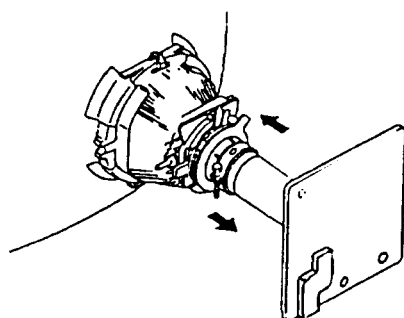

Fig.3-1
3. Move the deflection yoke backward, and adjust with the purity control so that red is in the center and blue and green are at the sides evenly. (Fig.3-1 - 3-3)
4. Move the deflection yoke forward, and adjust so that the entire screen becomes red. (Fig.3-1)